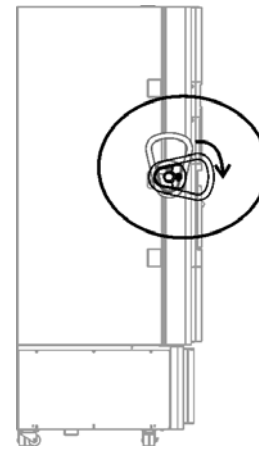

Figure 4-1
1. Unlatch the handle of the freezer (Figure 4-1).